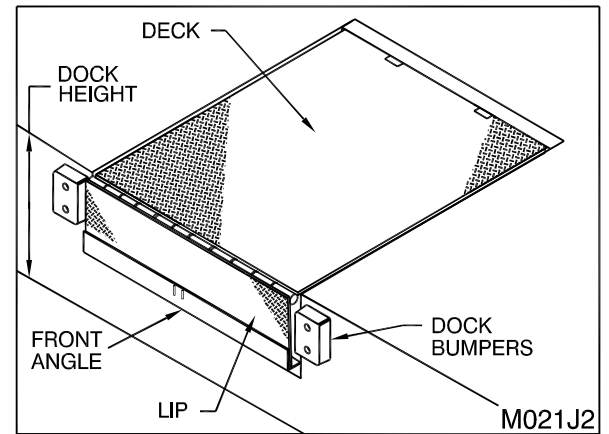

Figure 57: Deck in (Cross Traffic) Stored Position
CONDITION #1: The lip does not retract enough for the dock leveler to park itself with the lip behind the front angle ("Figure 57: Deck in (Cross Traffic) Stored Position" on page 48) at the stored position.
1. Load or unload End Loads with the deck and lip in the stored position as shown in “Figure 57: Deck in (Cross Traffic) Stored Position” on page 48(See “Below Level End Loading” on page 49)
4. Proceed to load/unload the vehicle. When completed, return the dock to its stored position by depressing the RAISE button. When the lip is fully retracted and clear of the truck, release the button and the dock will lower into the stored position. Visually inspect the dock leveler to ensure that it is properly stored with the lip inside the front angle. (See “Figure 57: Deck in (Cross Traffic) Stored Position” on page 48)